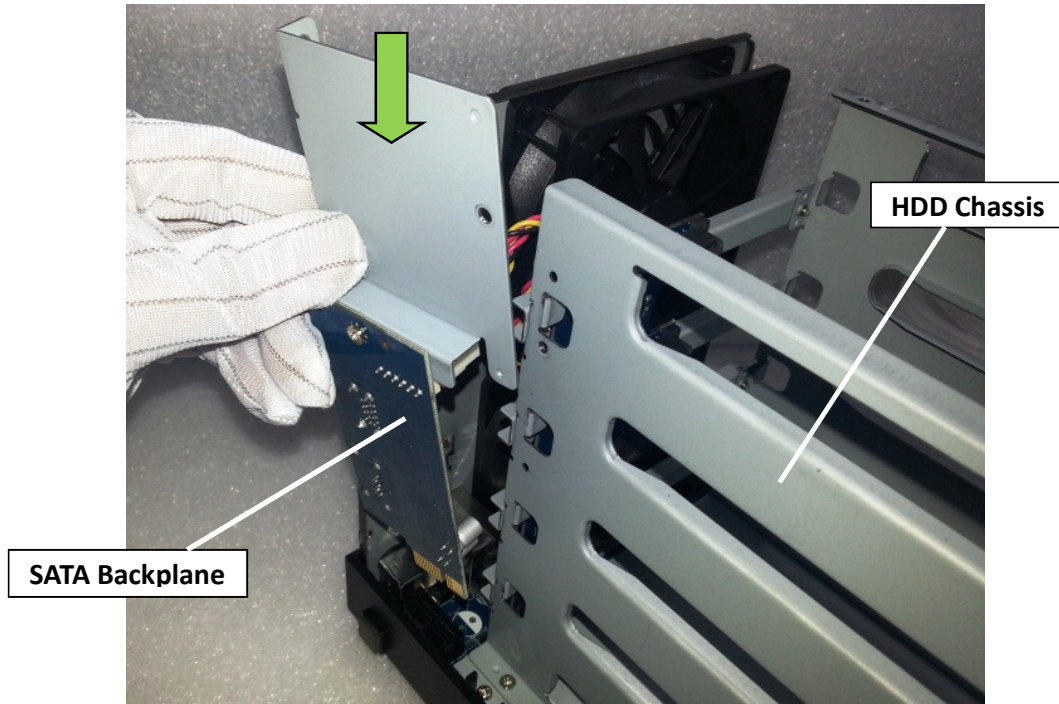

Fig. 33
2.2.7 Restore the SATA backplane into the enclosure. (Fig. 33)